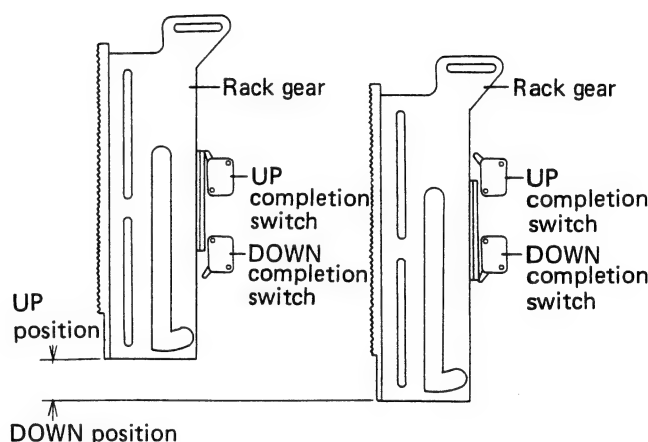

Fig. 6-4 Rack gear position
- 1 Projection (A) of the slide base presses the upper side actuator (leaf spring) ON.
- 2 Projection (B) of the slide base presses the lower side actuator (leaf spring) OFF.
4. At the playback position, the UP or DOWN operation is shown in Fig. 6-4. When the UP completion switch is ON, and the DOWN completion switch is OFF, elevation is in an UP status. In this status, when the arm elevation switch is pressed DOWN, the slide base drive motor rotates in a forward direction.